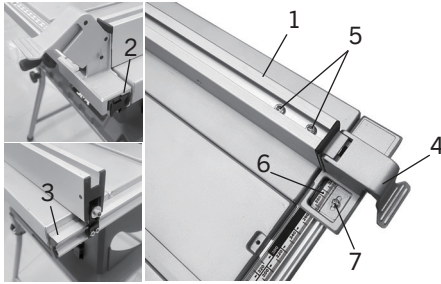
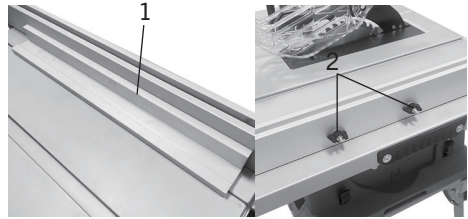
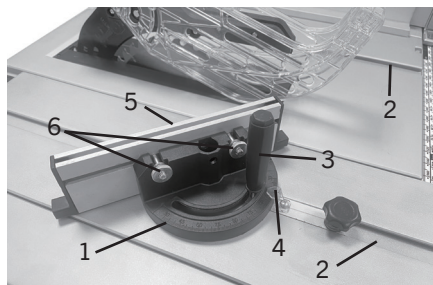

FIG. 13
FIG. 14
FIG. 15
1. Unlock rip fence (1) by raising rip fence locking lever (4) (Fig.13). Loosen both cap screws (5) on top of the rip fence (1) using the 5mm hex key (provided).
3. Adjust the rip fence indicator (6) to the same marking by loosening the pointer screw (7) and reposition indicator.
4. The horizontal aluminum guide (1) can be installed to left side of the rip fence in the horizontal position as shown. This aluminum guide is mainly used to safely rip thin and narrow stock, especially when cutting workpieces with the blade tilted to 45° (Fig.14).
5. Insert two long hex. bolts into the left side in the rip fence loosely and secure the hexbolts with washers and lock knobs (2). Slide the T-slot of the aluminum guide over the head of each hex bolt, once in position, tighten lock knobs (2) (Fig.14).
NOTE: It is not recommended to use the horizontal position aluminum guide (1) (Fig.14) with the extension table extended.
When crosscutting with the blade set at 90° or 45° to the table, the miter gauge (1) (Fig.14) can be used in either the right side or left side T-slot (2) on the table. When crosscutting with the blade tilted, use the right sided T-slot of table where the blade is tilted away from your hands and miter gauge.
1. Slide the miter gauge bar into one of the T-slots (2) in the table.
2. To adjust the miter gauge, loosen lock handle (3) and set the miter gauge (1) so the indicator (4) aligns to the desired cutting angle, then re-tighten lock handle (3) (Fig.15).
3. This miter gauge comes with an aluminum facing (5) which can be removed if desired by removing lock knob (6). (Fig.15).